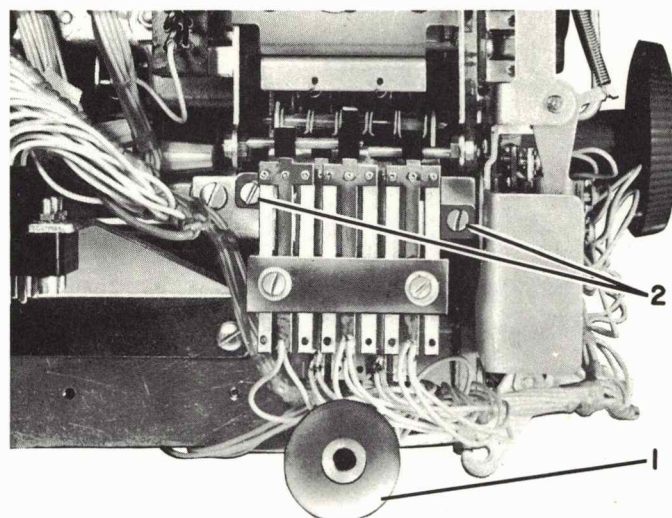

FIGURE 42. Operational Contact Removal
1. Remove the right rear mounting leg (#1, Figure 42).
2. Remove the two mounting screws (#2, Figure 42) and remove the contact assembly.